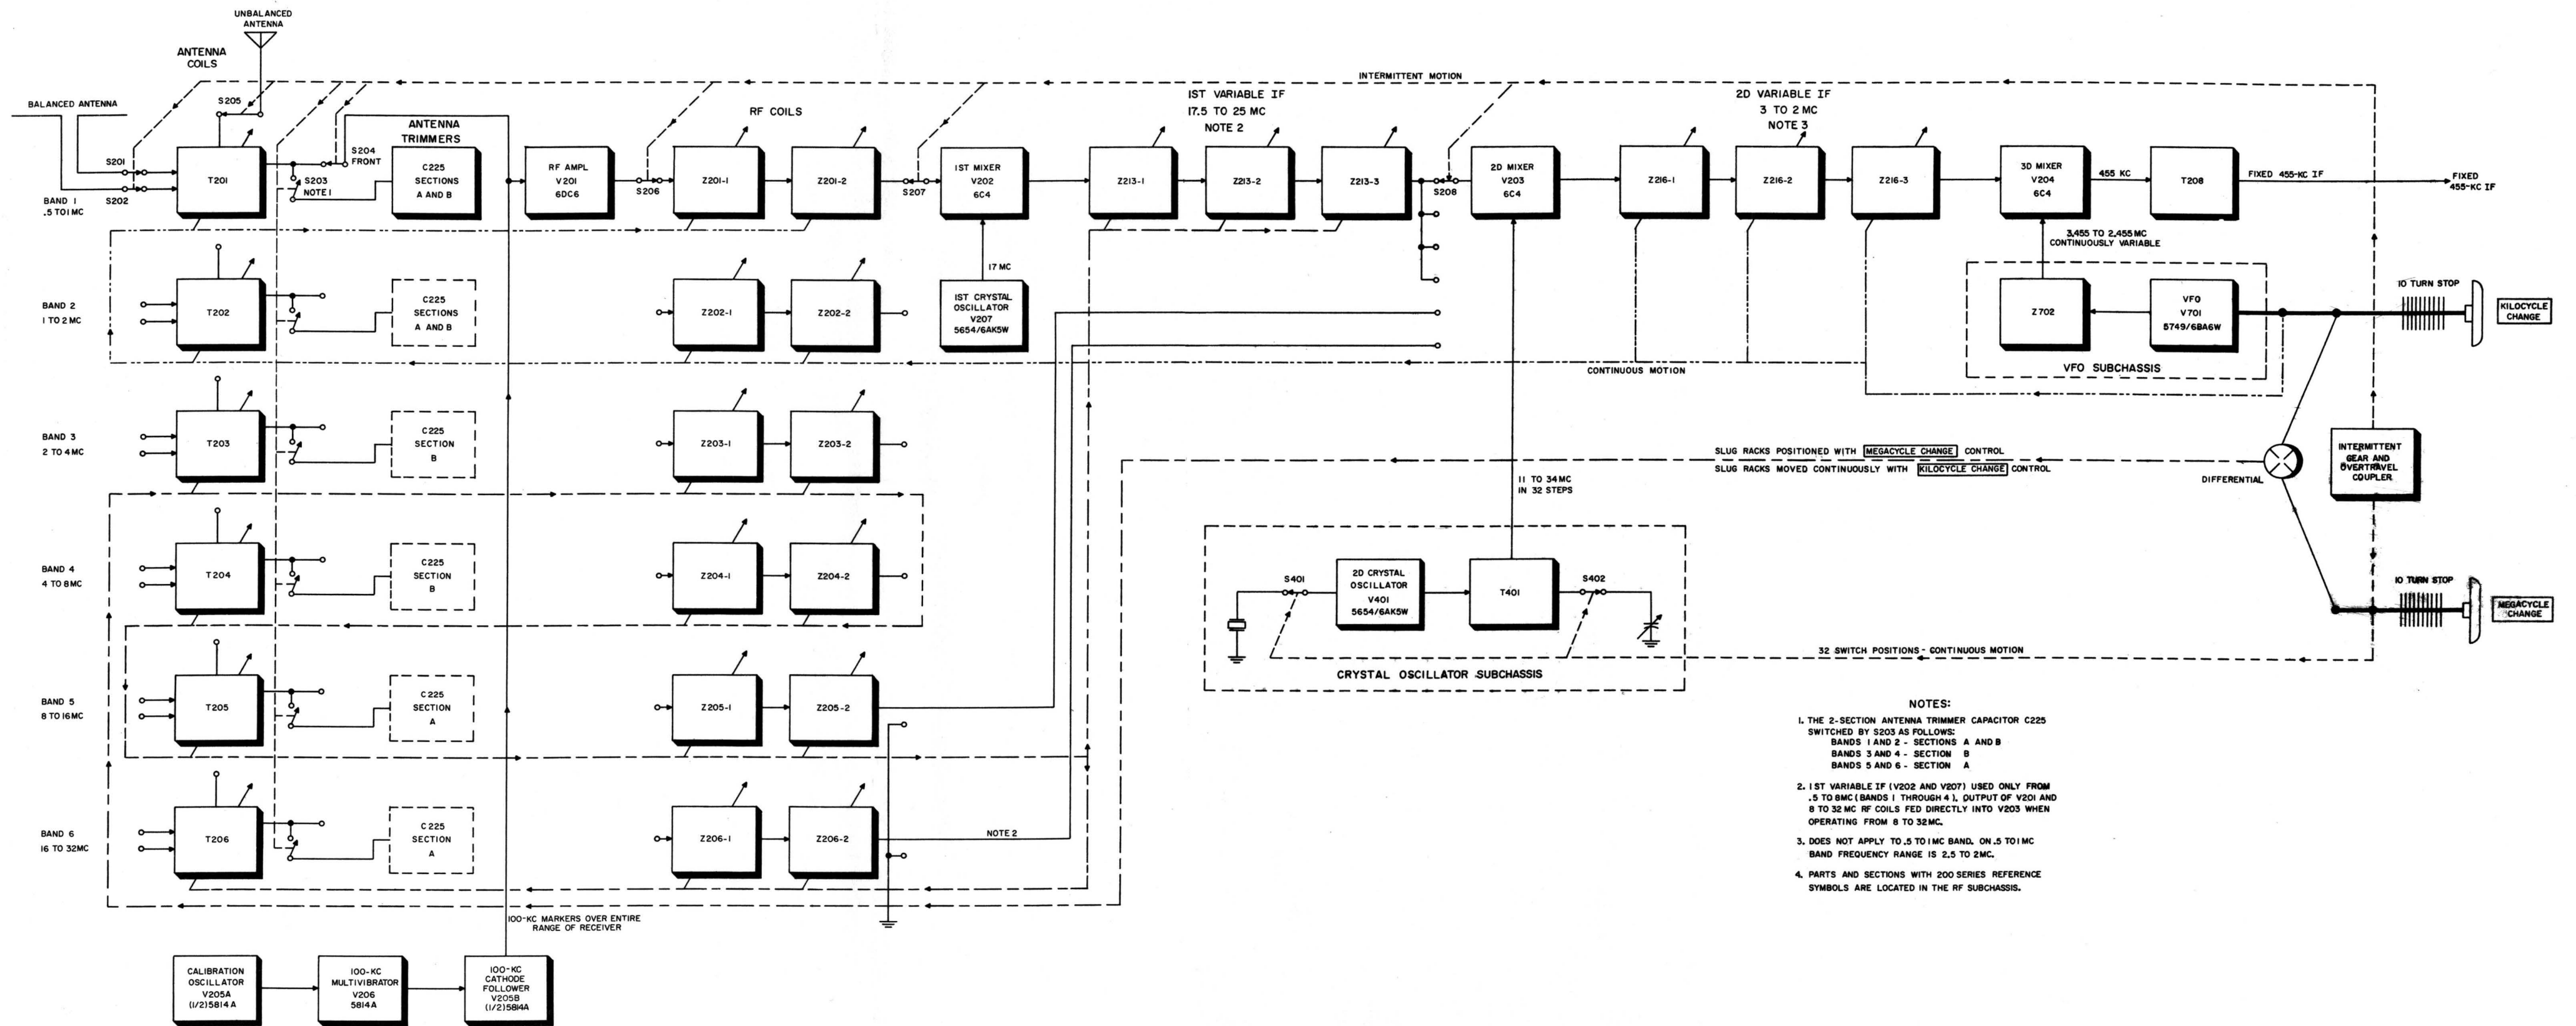

Figure 50. Tuning system, showing relationship of stages, block diagram.
(fig. 50)
a. General. Figure 50 gives a more detailed description of the operation of the mechanical tuning system. A detailed study of the mechanical alignment, disassembly, and reassembly of the tuning assembly should be made in connection with the following analysis. In order to tune continuously from .5 to 32 mc at a linear rate, not only must the correct coils and transformers be selected but the slugs must be moved at the proper rate to tune numerous coils and rf transformers simultaneously. For example, to cover the .5 to 1-mc band, the slugs in coils T201 and Z201 move over their entire range, a distance of approximately eight-tenths of an inch. At the same time the slugs in the coils of Z213 move approximately five-hundredths of an inch in covering this range. This tuning is controlled with a single knob by means of numerous gears and cams.
b. KILOCYCLE CHANGE Knob. Starting with the right-hand side of figure 50, it will be seen that the KILOCYCLE CHANGE knob tunes the vfo directly through the 10-turn progressive stop. Also connected to this control (dotted lines) are the second variable if slug rack (3 to 2 mc) and the antenna and rf slug racks for the coils covering the .5- to 1-mc and the 1- to 2-mc bands.